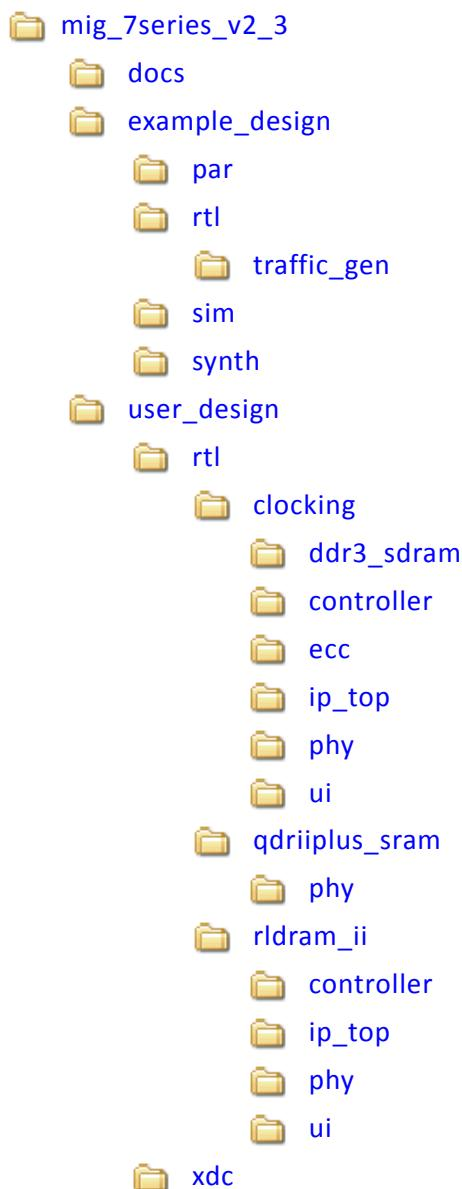

**Figure 5-28: Recustomize IP**
12. Recustomization of the MIG IP core can be done by using the **Recustomize IP** option. It is not recommended to recustomize the IP in the example\_design project. The correct solution is to close the example\_design project, go back to original project and customize there. Right-click the XCI file and click **Recustomize IP** (Figure 5-28) to open the MIG GUI and regenerate the design with the preferred options.